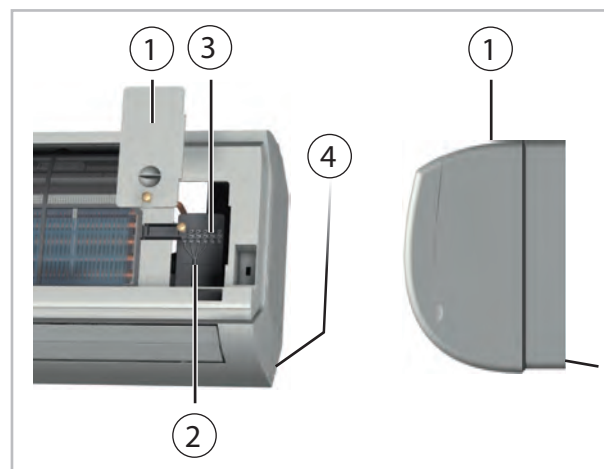

Fig. 40: Connecting the indoor unit
2. ➤ Remove the covers on the right-hand side (Fig. 40).
3. ➤ Connect the customer-laid control line to the terminals (Fig. 40).